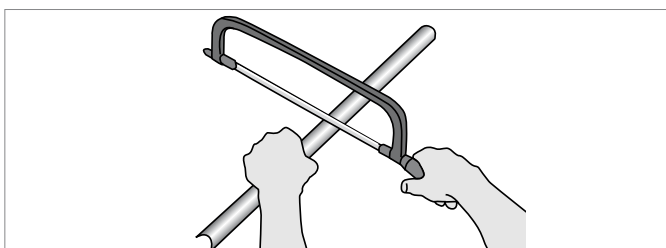

Fig. 14-6 Cutting off pipe support channel
1. Cut off the support channel with a metal saw (see Figure 14-6). Maintain a safe distance between the holding hand and the cutting tool. Saw pipe support channels from the rear side, not the open side so that they are not bent open at their bordered ends.